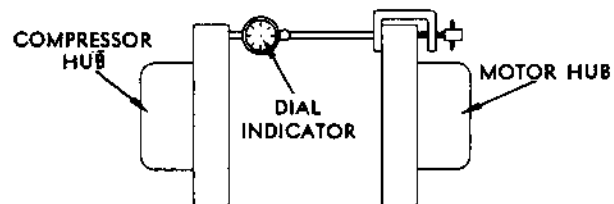

FIGURE 12 – Dial Indicator -- Angular Alignment
3. Mount the dial indicator on the flange of the motor hub with the stem of the indicator riding on the face of the compressor hub flange (see Figure 12).